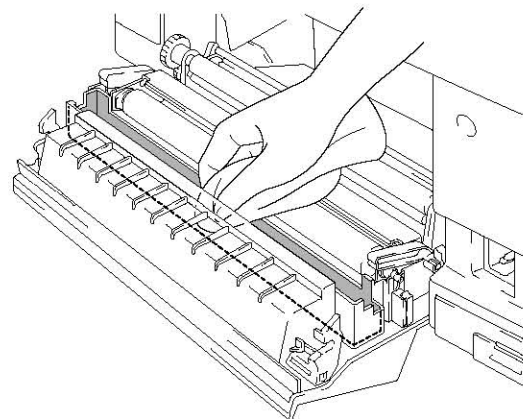

Fig. 6-24
- (1) Remove the cleaner cover by releasing the two hooks.(Fig.6-24)